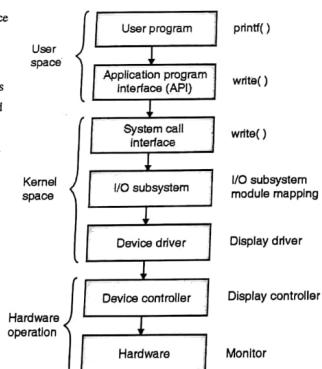

Fig. 13.10.2 : Communication flow for printf statement
- The Fig. 13.10.2 shows a set of layers between user program and the actual hardware.